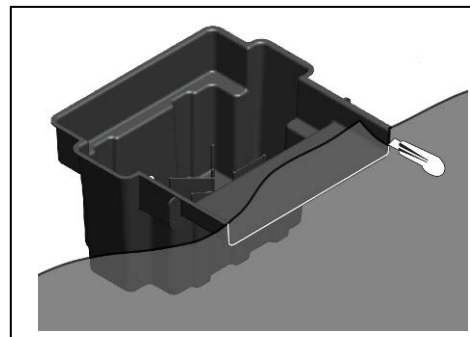

Fig. 4
- Carefully cut and remove the section of liner in the spillway opening. Fig. 4